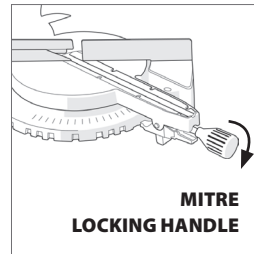

Fig. 3a
- Turn the Mitre Locking Handle clockwise to engage and draw the Handle into the locking mechanism. **(Fig. 3a)**